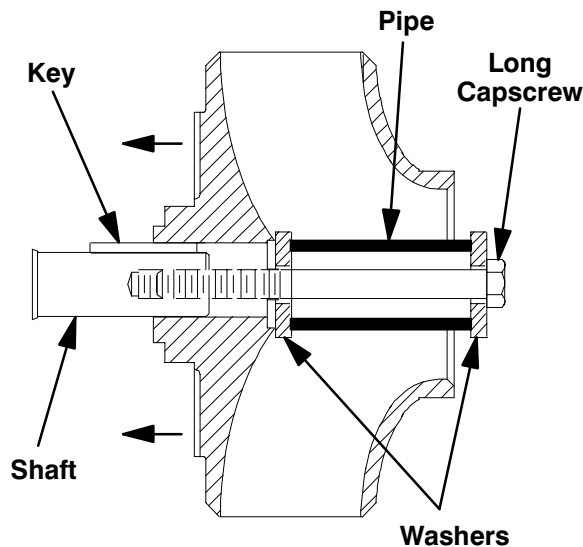

Figure 10. Installing Impeller
Install the key (50) and position the impeller on the shaft. See Figure 10, and use a section of pipe, washers and a long, 1”–8 UNC capscrew to press the impeller onto the shaft until fully seated (**do not use the impeller lock screw**). Make sure the spring holder seats squarely inside the seal spring.